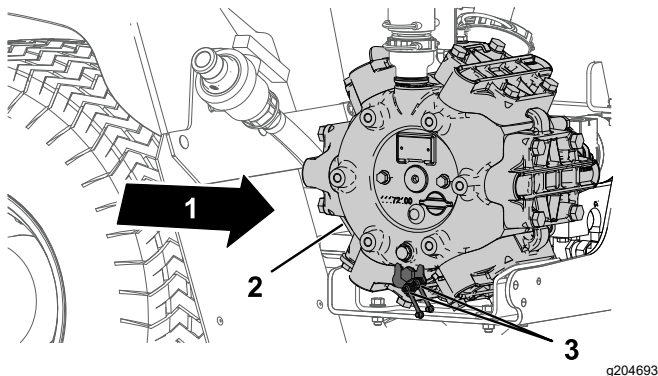

Figure 66
1. Wipe the 2 remote grease fitting clean (Figure 66).
2. Pump grease into the remote grease fitting (Figure 66).